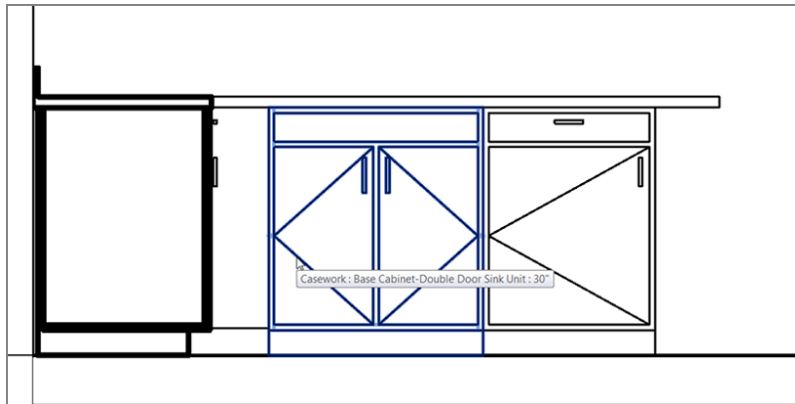

FIGURE 11.77: Picking the base cabinet with two doors and one drawer
2. Zoom in on the cabinets, as shown in Figure 11.77.
5. Pick the base cabinet with two doors and one drawer (see Figure 11.77).